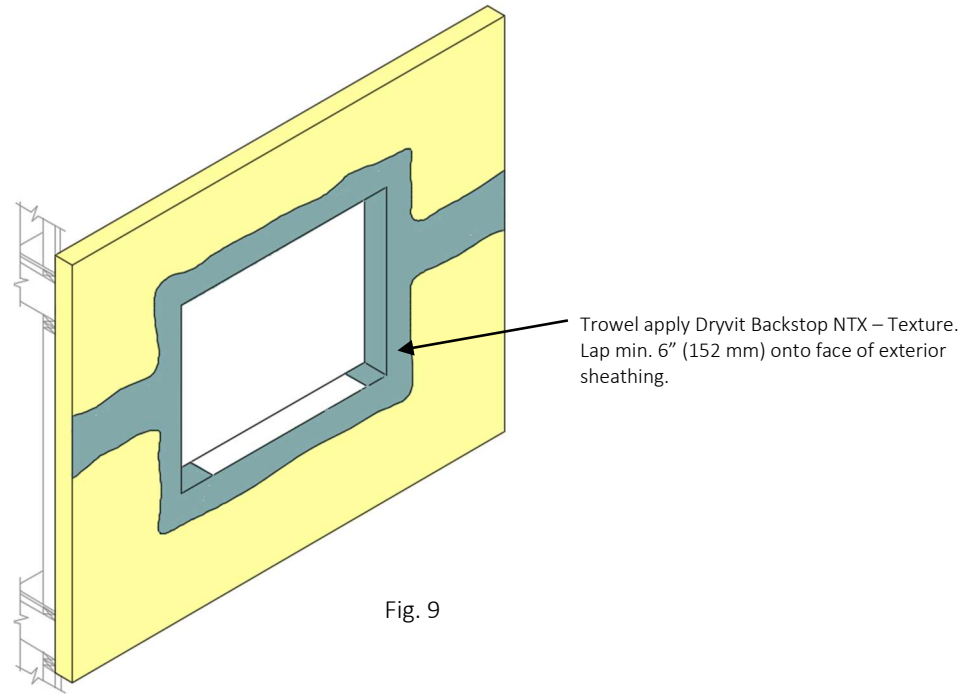

Fig. 9
- 2) Using a stainless steel trowel apply Backstop NTX – Texture over the Grid Tape extending to the inside face of the opening and onto the face of the exterior sheathing a minimum of 6 in (152 mm) – **Figure 9**.